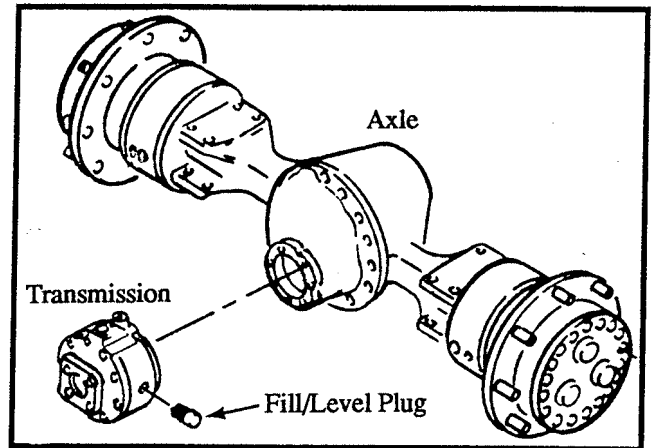

Figure 12-7. Transmission Fill/Level Plug
6. Remove the fill/level plug on the side of the transmission housing. Using this port, refill the transmission to this level using GL-5 SAE 90 (MIL-L-2105C) gear oil. Refer to Figure 12-7.